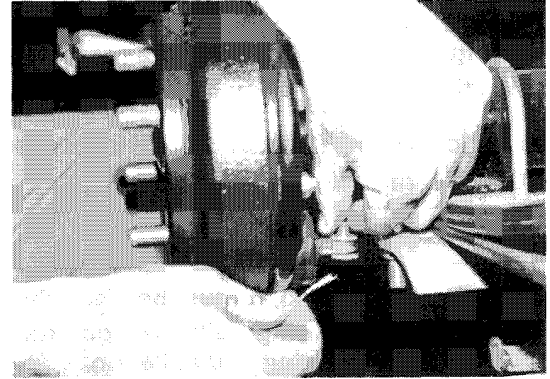

Figure 6-8
3. Remove cotter pins, brake cable clevis pins, cable retaining clips and disconnect brake cables (Figure 6-8).